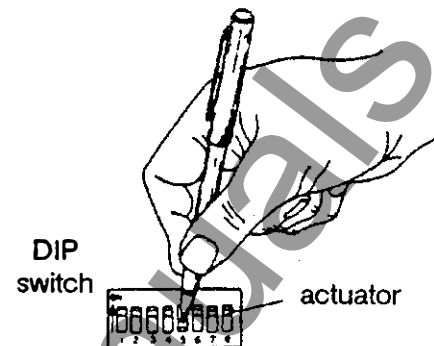

Figure 4-3. Setting DIP switch actuators.
The adjustments are incremental. Three DIP switches are used; each has eight actuators. See Figures 4-3 and 4-4 on page 4-2.
6. Use a ball-point pen to slide the switch actuators up or down so they match the illustration next to the setting (up = on, down = off). Recheck the setting. See Figure 4-3.